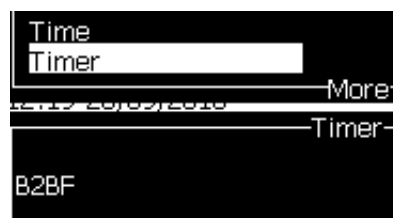

Figure 5-44: Timer User Field
- 6 Press *F2* to open the *Select user field* window and select the *Timer* option. You can see the format that you set above, in the preview window shown in Figure 5-44.